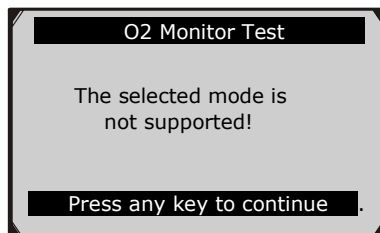

Figure 5.25
- If the vehicle does not support the mode, an advisory message will be displayed on the screen. (Figure 5.25)